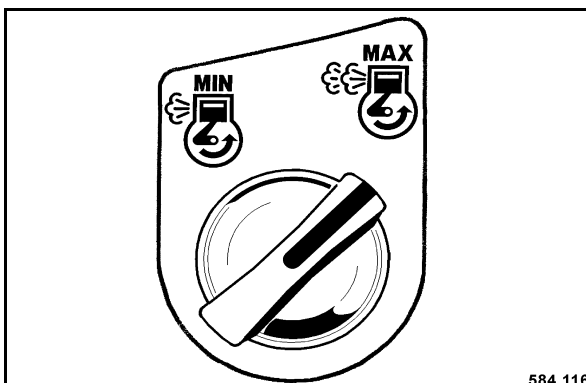

Fig. 95
- Turn the rotary switch (Fig. 95) for engine speed to position "MAX".